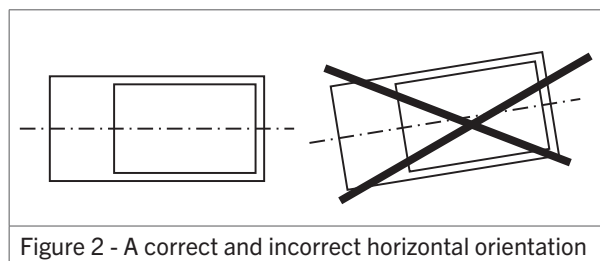

Figure 2 - A correct and incorrect horizontal orientation
- Keep sufficient distance between the heater and any obstructions. This is both for safety reasons and to allow access for service and maintenance (figure 2).
- Install the heater horizontally without an inclination (figure 2).